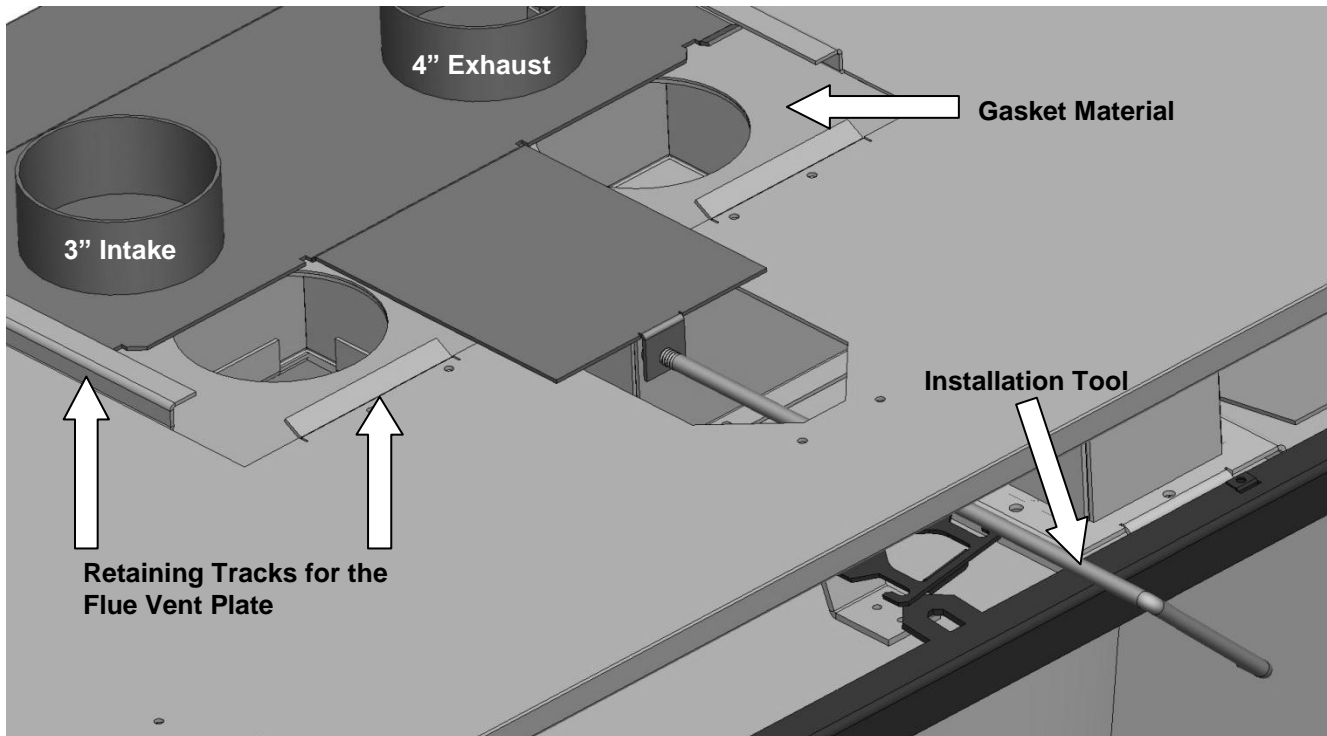

Figure 19 – Flue Plate & Installation Tool Detail
5. Carefully position the DVI 44 in front of the fireplace opening. Slowly slide the insert back so the rear of the insert is just inside the firebox. Start the Flue Vent Plate underneath the Retaining Tracks on the top of the insert. (See Figure 19) The Retaining Tracks will ensure a tight seal for the flue gases when the plate is fully seated.